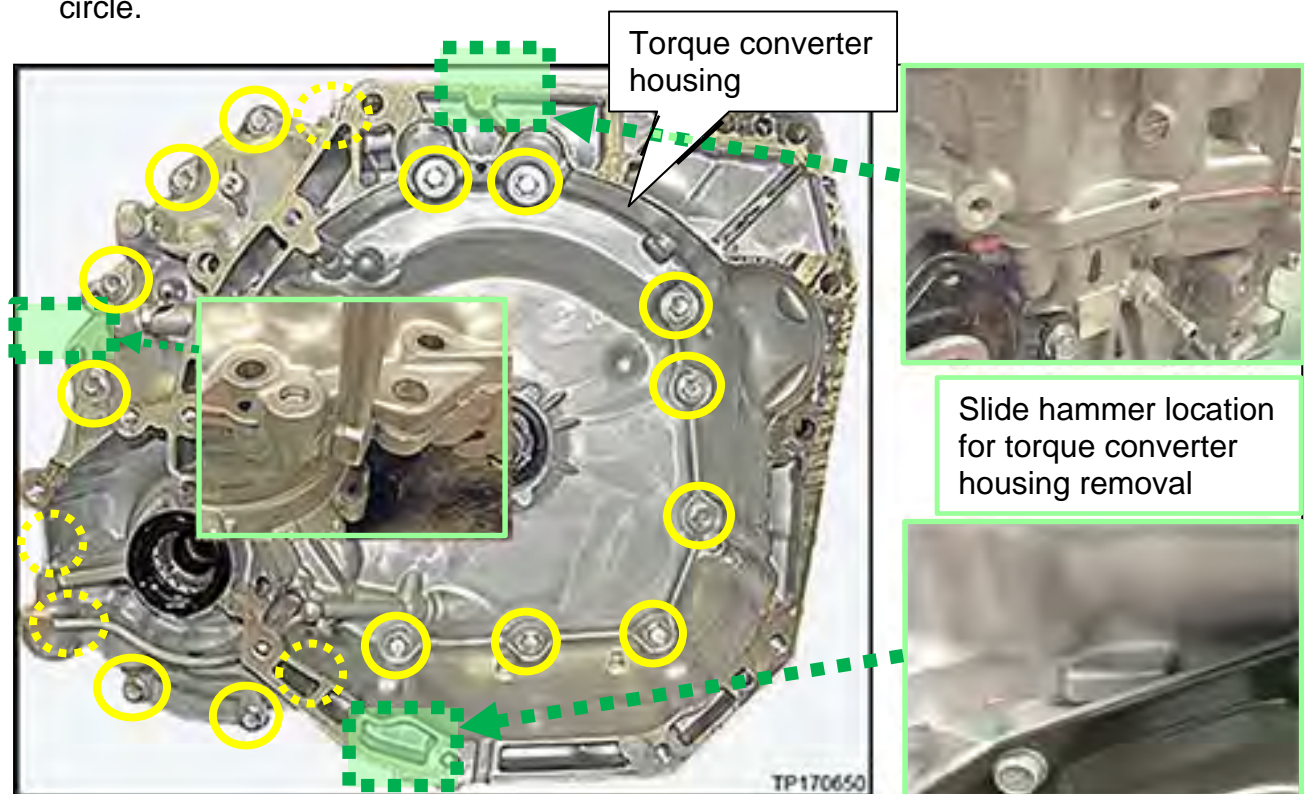

Figure 66
43. Remove the nineteen (19) bolts circled in yellow shown in Figure 66 from the torque converter housing.
**NOTE:** The bolts that are not visible in Figure 66 are indicated with a dotted yellow circle.
- If necessary, use a Slide Hammer J-25721-A at the three locations (highlighted in green) shown in Figure 66.